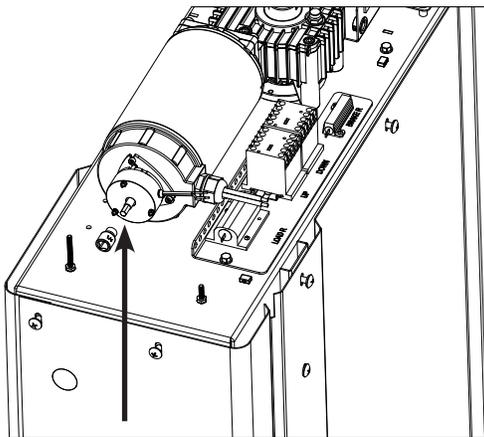

Figure 3-6
5. If you have a $\frac{3}{8}$ " drive ratchet or a cordless drill with a $\frac{3}{8}$ " socket adapter bit you can use the $\frac{1}{4}$ " socket for lowering. Power the drill in the forward direction - rotating clockwise to lower the platform. *See Figure 3-6.*